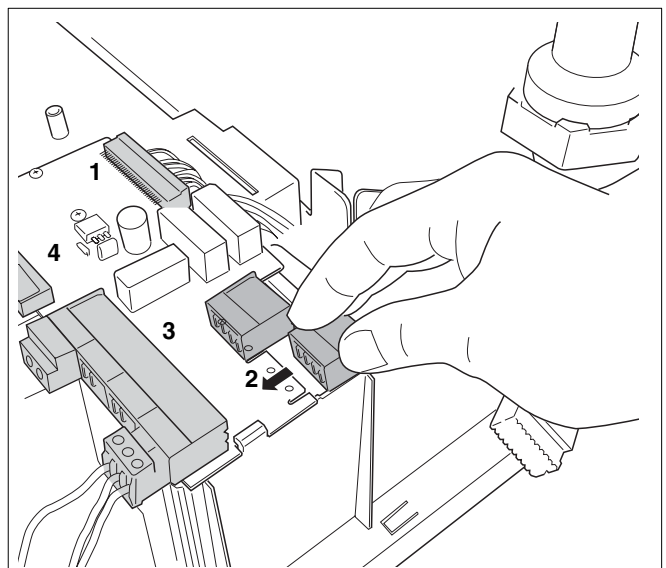

Fig. 95 Pulling the external connection board plug
- Pull the 4 plugs from the external connection board (see fig. 95, pos. 1, 2, 3 and 4).